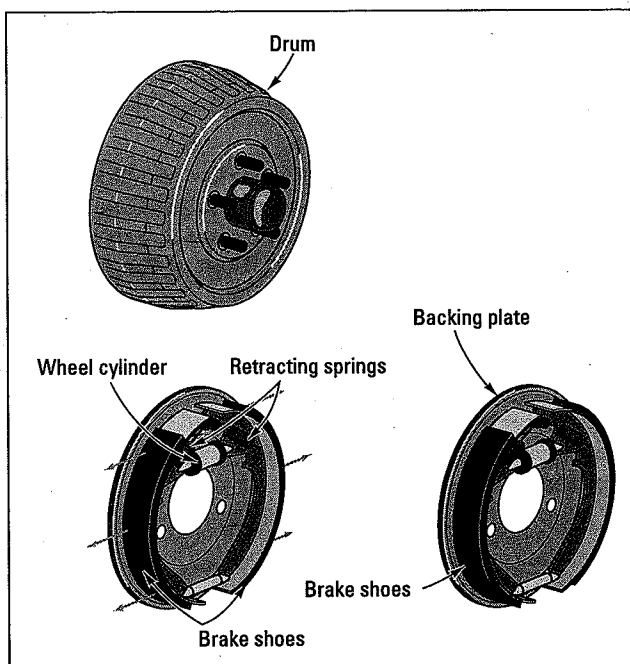

Figure 18-6:
11. Look at the rest of your brakes, which are still attached to the brake backing plate (see Figure 18-6).